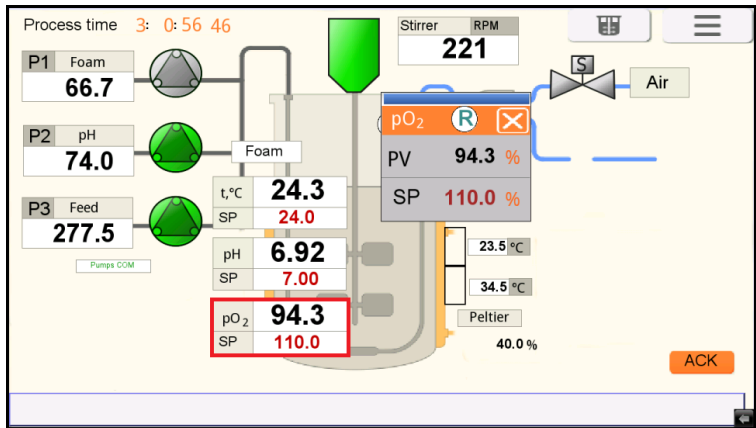

Figure 0.18. 2nd level REACTOR window
In the **REACTOR** 1st level window by pressing either the left (L) or right (R) reactor picture the user can open the respective 2nd level REACTOR windows (see Figure 0.18). In the 2nd level all of the most important process parameters can be easily configured and monitored.